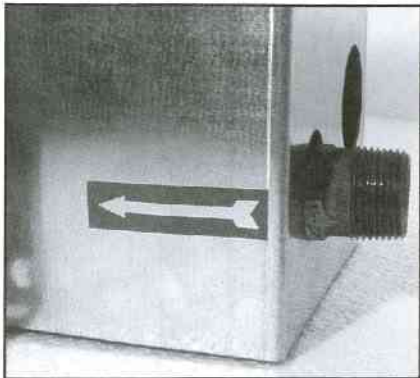

Fig. 1
If a frost protection sensor is to be used, the heater must be installed so that the connection with the “arrow to the finned coil” (Fig. 1) is in the lowest position.
4. The water inlet must always be connected to the pipe marked “arrow to the finned coil” (Fig. 1) and the outlet to the pipe marked “arrow from the coil” (Fig. 3) if a frost protection sensor is to be used. If no frost protection sensor is to be used, the water inlet must be connected to the lowest connection pipe. The inlet is provided with a drain nipple, and the outlet has a bleed nipple, as shown in Figs. 2 and 4.